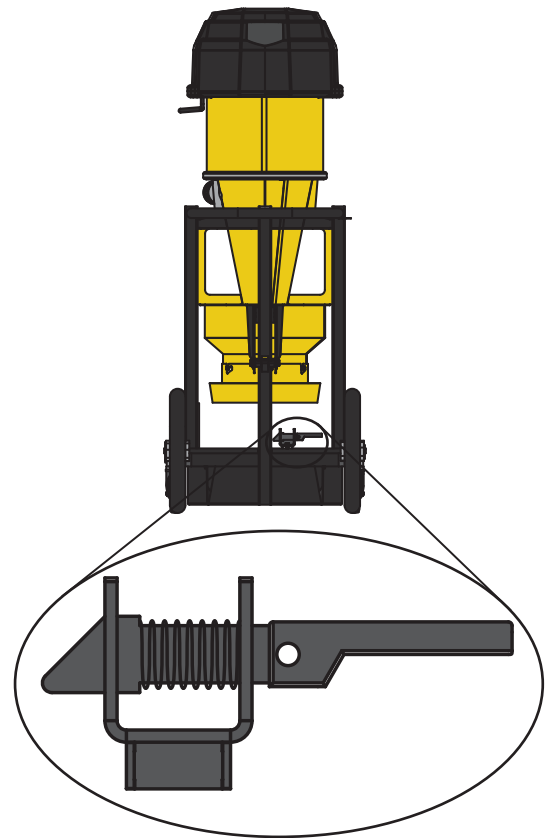

FIG. 7
- 7 Raise the Cyclone and Cart Assembly (G) to the extended position by pressing down on the Release Latch [FIG. 7].